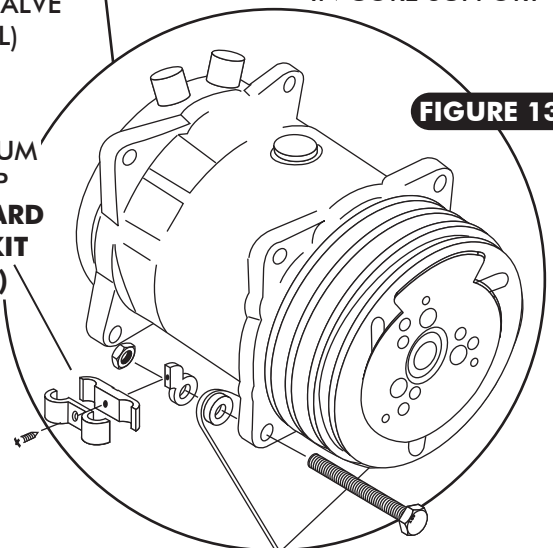

FIGURE 13a
- ☐ SECURE THE TWO COMPRESSOR HARDLINES TO THE COMPRESSOR, USING THE SUPPLIED CLAMP. SEE FIGURE 13a, PAGE 14.